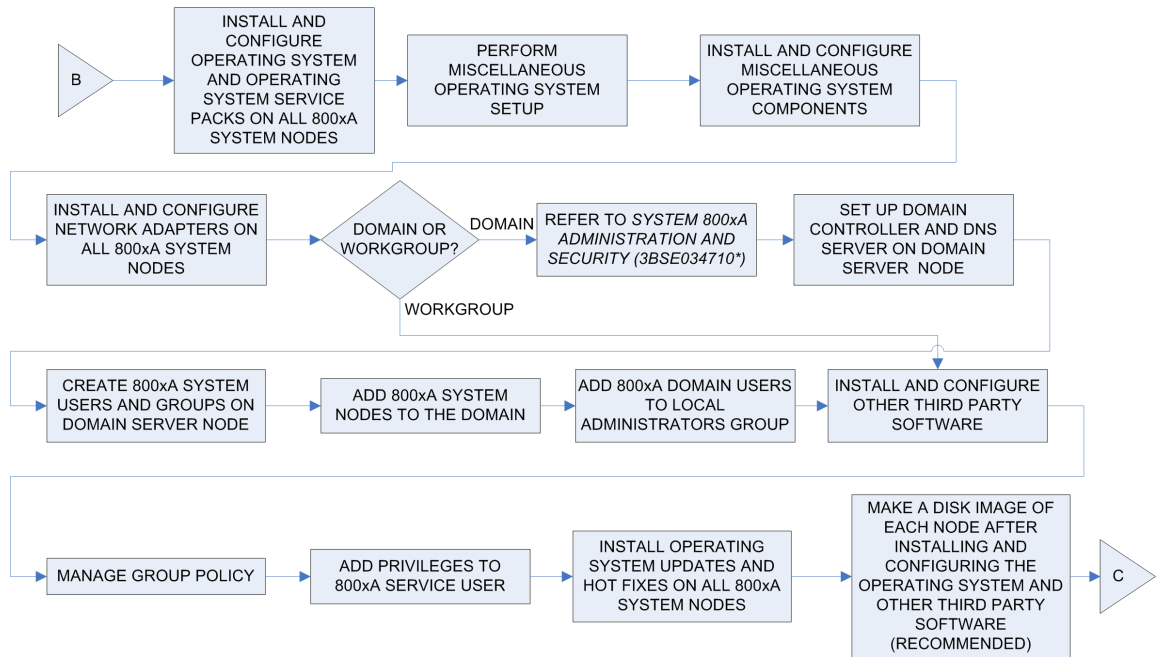

Figure 3. Installation Sequence Flow Chart B (Operating System and Third Party Software Installation)
- Operating system and third party software installation (Figure 3).